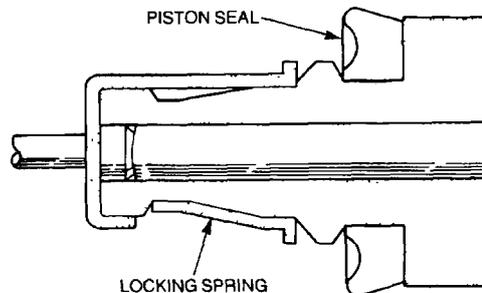

Figure 148 Installing the Piston Seal
- g. Install the piston seal onto the piston (Figure 148).
- h. Insert the piston into the spring retainer and engage the locking spring (Figure 148).